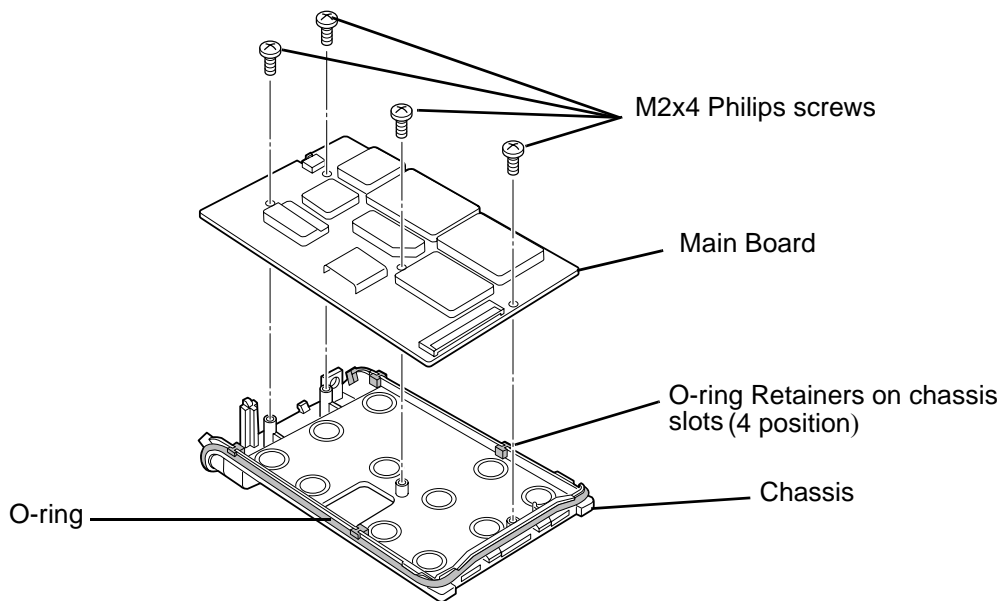

Figure 3-5 Remove Main Board from Chassis
1. Lift the main board from the chassis. (See Figure 3-5.)
1. Lift the main board from the chassis (See Figure 3-5).